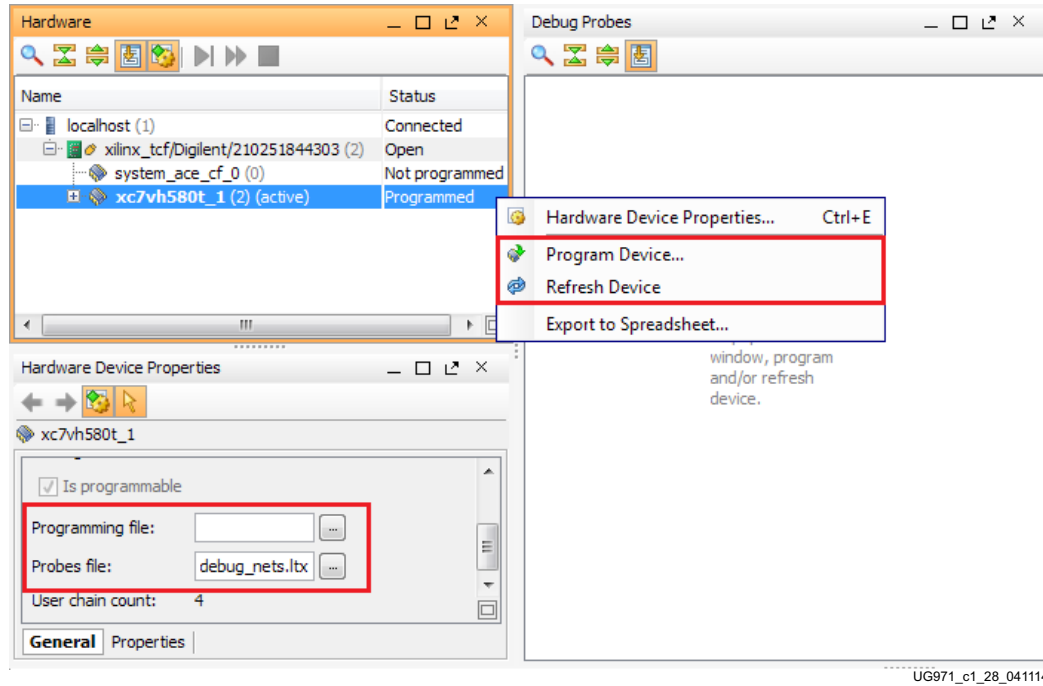

Figure 1-28: Program/Refresh Device
- In the Hardware window, right-click **XC7VH580T_1** and select **Refresh Device** (Figure 1-28).